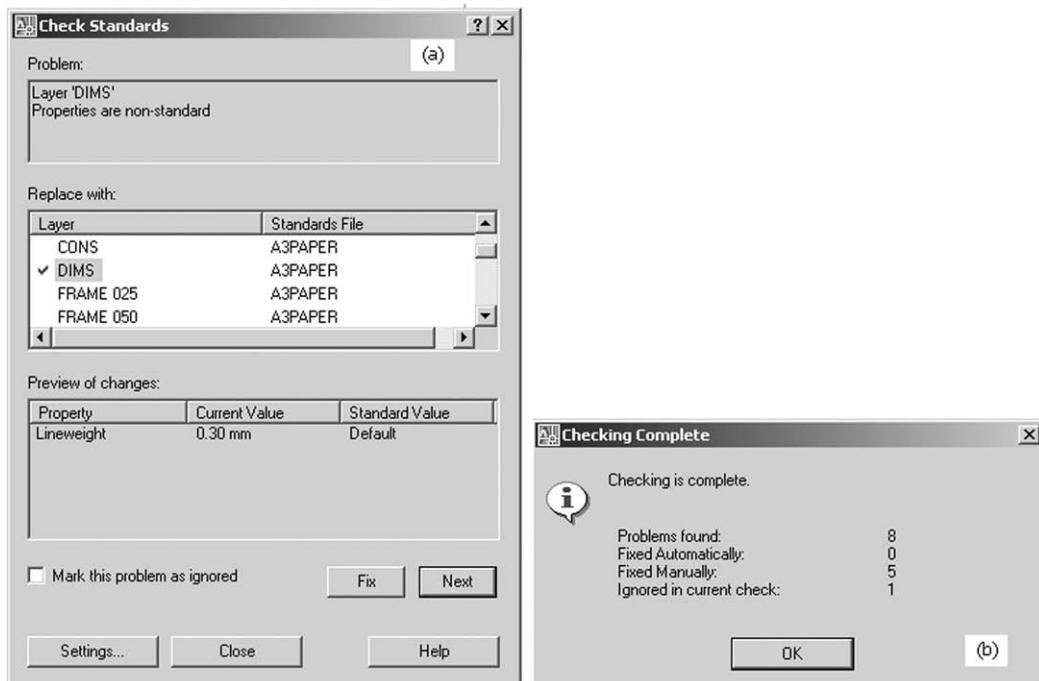

Figure 34.6 (a) The Check Standards dialogue box with layer DIMS problem displayed and (b) the Checking Complete message box.
- c) Preview of changes information – Figure 34.6(a)
- details about the problems and fixes – Figure 34.6(b)